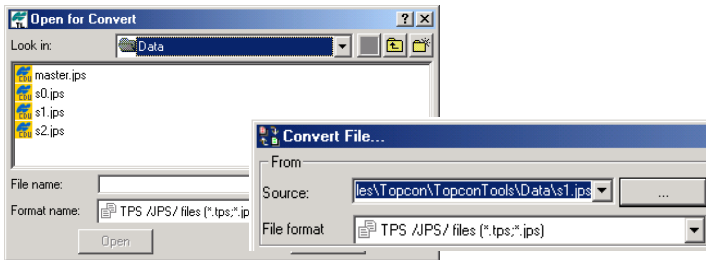

Figure E-24. Select Files to Convert
- Click the **Browse** (“...”). Select the file to import and click **Open** (Figure E-24).
The full path of the file displays in the *Source* field (Figure E-24).